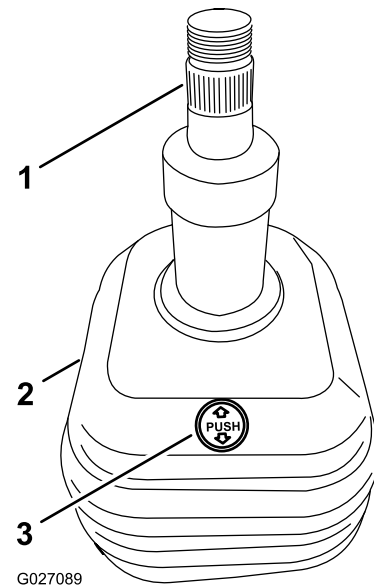

Figure 8
2. Align the tilt-steering column to the steering valve with the short-spline shaft down and the word PUSH that is embossed in the boot of the column rearward (Figure 8).